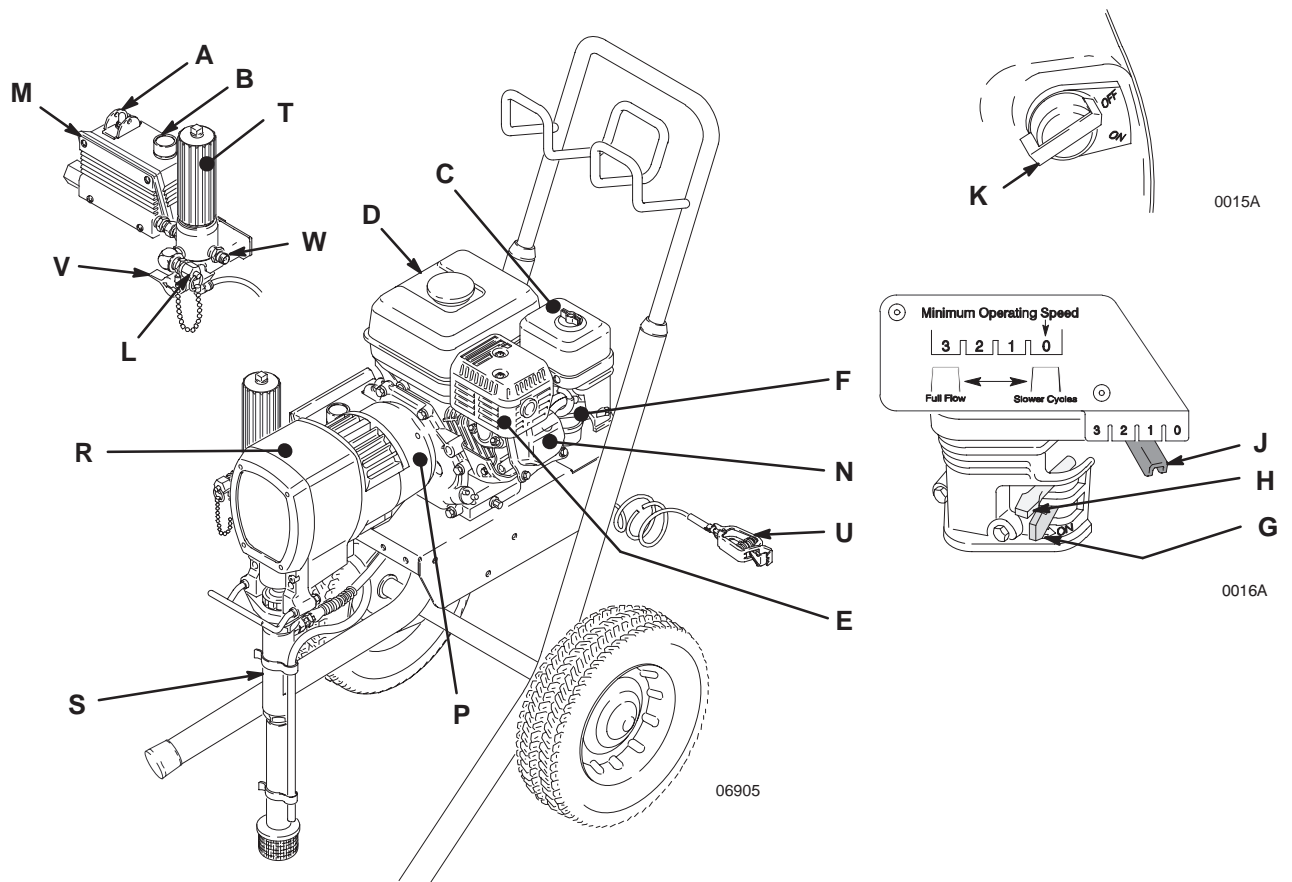

Fig. 1
**NOTE:** Refer to Fig. 1 as you start the sprayer.
1. **Be sure the gas tank is full.** Open the black fuel shutoff lever (G).
3. **Place the suction tube (S) into the paint container.**
4. **Turn the pressure control switch (A) to OFF.**
5. **Open the black fuel shutoff lever (G) by pushing it in the direction of the arrow.**
6. **Be sure the spark plug cable (F) is firmly pushed onto the spark plug.**